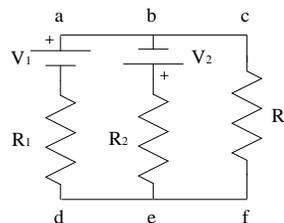
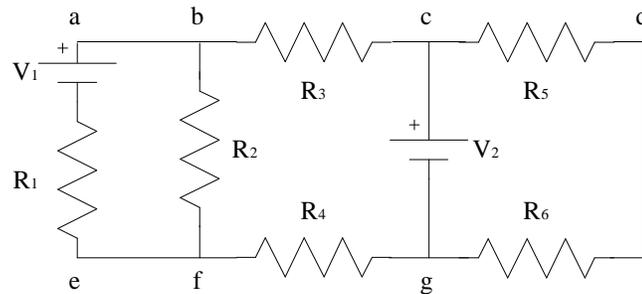

Figure 1
Figure 2
A branch point or node is a point at which three or more wires meet; a point into or out of three or more currents flow. In Figure 1 points b and e are nodes. In Figure 2 points b, c, f and g are nodes.
A loop is any closed conducting path. In Figure 1 there are three loops: abeda, acfda and bcfed. In Figure 2 there are six loops: abfea, acgea, adea, bcfgb, bdfb and edgc.
By assigning a direction to the current through each of the resistors and voltage sources in Figures 1 and 2, application of Kirchhoff's laws provide N equations and N unknowns. For example, given the values of the resistances and voltages in a multiloop circuit, one
1. Find resistors of the following values: $R_1 = 4.7 \text{ k}$, $R_2 = 8.2 \text{ k}$ and $R_3 = 2.2 \text{ k}$. Draw the circuit shown in Figure 1, then set it up without connecting the resistors to each other or the batteries.
- Find resistors of the following values: $R_1 = 4.7 \text{ k}$, $R_2 = 8.2 \text{ k}$, $R_3 = 2.2 \text{ k}$, $R_4 = 8.2 \text{ k}$, $R_5 = 8.2 \text{ k}$ and $R_6 = 4.7 \text{ k}$. Draw the circuit shown in Figure 2, then set it up, again leaving the resistors and batteries disconnected.